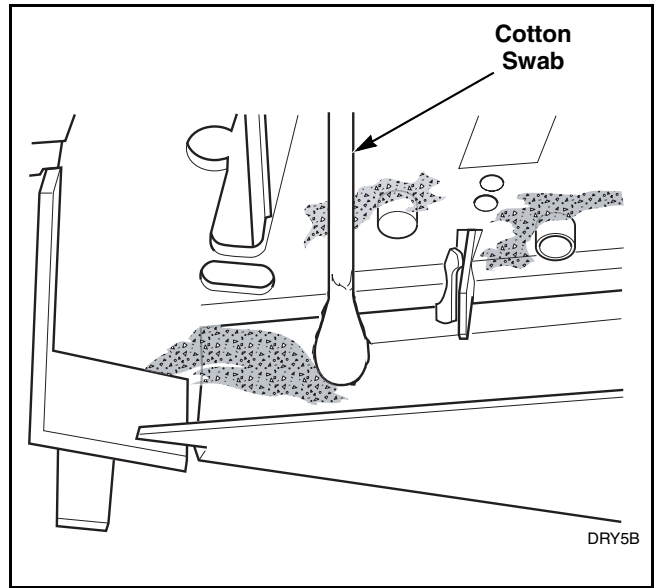

Figure 4
8. Check the path in the coin drop for lint and residue. If lint or light residue is present, use a cotton swab to remove it. If heavy residue is present, it may be necessary to first scrape off the excessive residue and then to use a cotton swab dipped in water or isopropyl alcohol to remove the remainder of the residue. Refer to *Figure 4*.